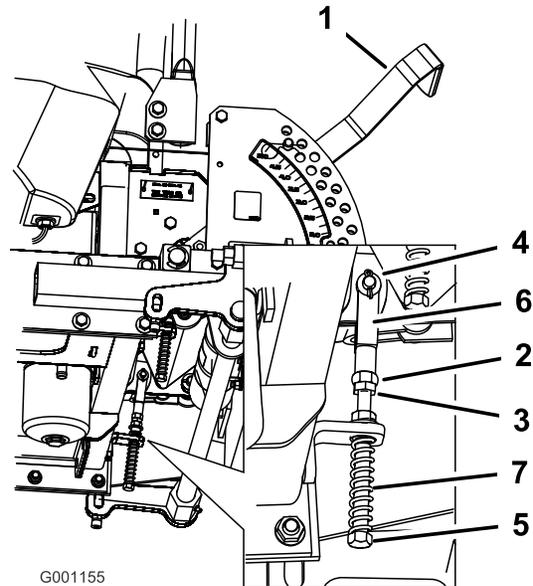

Figure 76
8. If adjustment is needed, loosen the nut and jam nut against the yoke (Figure 76).
9. Apply slight rearward pressure on the motion-control lever, turn the head of the adjustment bolt in the appropriate direction until the control lever is centered in the NEUTRAL-LOCK position (Figure 76).
10. Tighten the nut and jam nut (Figure 76).